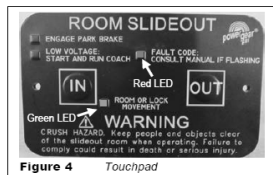

Figure 4 Touchpad
The GREEN ROOM MOVEMENT LED (Fig 4) will flash GREEN a number of times corresponding to which motor has the associated fault.
- **MINOR** faults can be cleared by pushing and releasing the **IN** or **OUT** buttons on the wall touchpad (Fig 4).